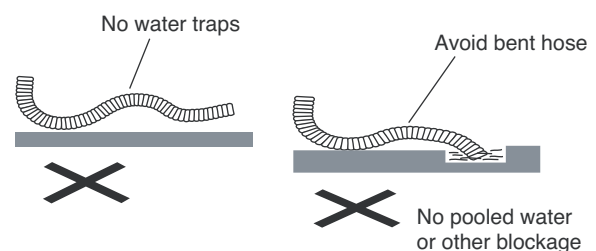

Fig. 14
- (1) The drain hose must be angled at a downward slant for smooth, unimpeded drainage.
- (2) Supply adequate support for the hose, and do not pull on it or permit bends or water traps to occur. The outlet end must not be immersed in water or otherwise blocked. (Fig. 14)
- (3) When extending the drain hose inside a room, cover it with adequate insulation to prevent condensation and dripping. This is important to avoid damage to walls, floors, or room furnishings.